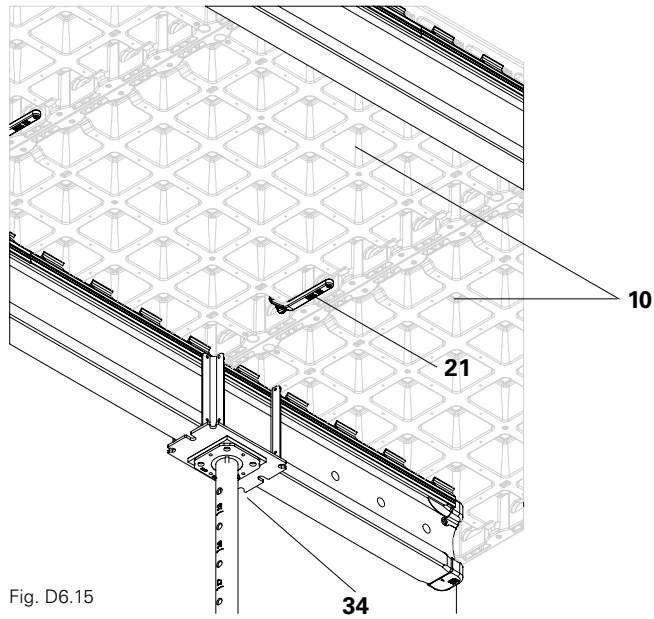

Fig. D6.15
Connect the DP panel (10) with the DUO coupler (21) at the adjacent DP panel (10). (Fig. D6.15)